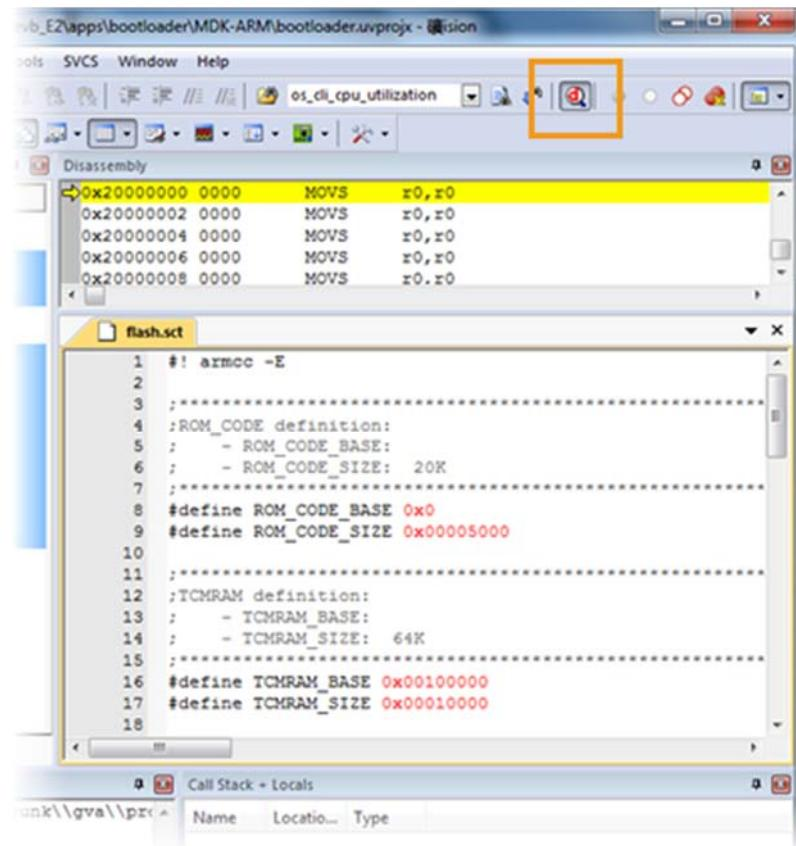

Figure 52. Debugging a project on Keil IDE
- 9) Click **Debug** to start debugging the project, as shown in Figure 52.